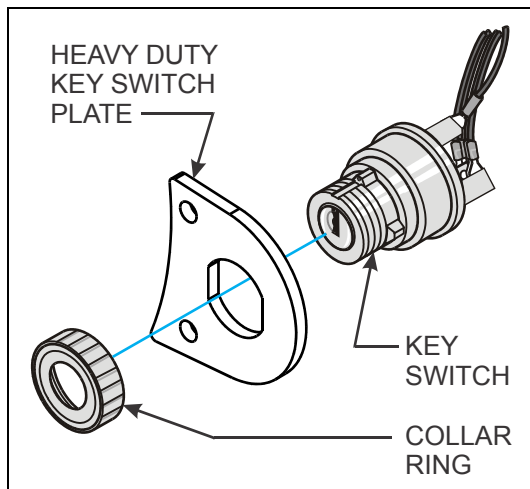

Figure 3-39: Keyswitch
2. Unscrew the knurled switch collar ring to separate the switch from the base plate. See Figure 3-39.